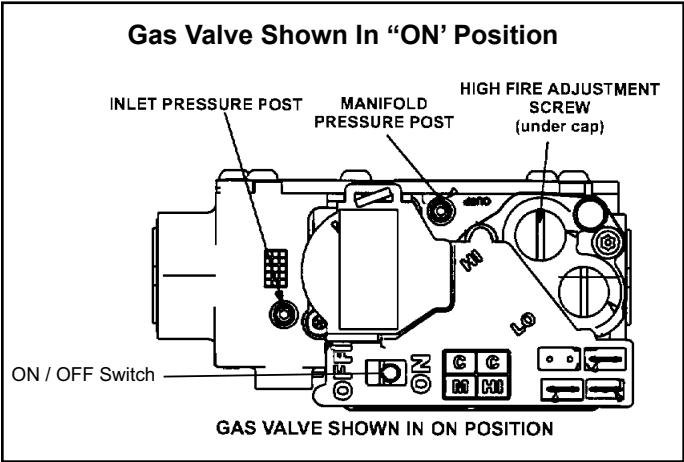

Figure 65.
- 6. Move gas valve switch to OFF. See Figure 65.
- 8. Move gas valve switch to ON. See Figure 65.
1. A manifold pressure post located on the gas valve provides access to the manifold pressure. See Figure 65. Back out the 3/32 Hex screw one turn, connect a piece of 5/16" tubing and connect to a manometer to measure supply pressure.
6. Repeat on high fire and compare to value given in Table 29. If necessary, make adjustments. Figure 65 shows location of high fire and low fire adjustment screws.